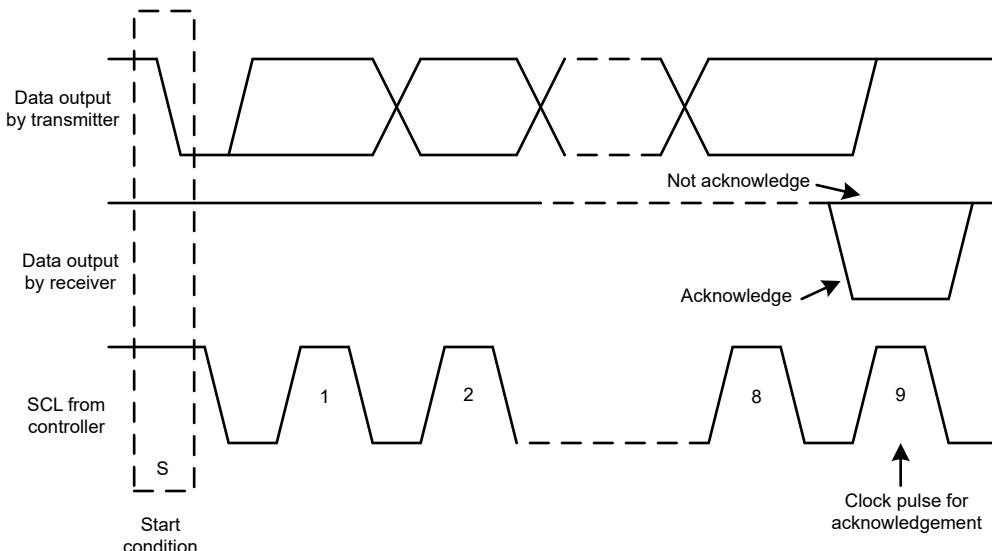
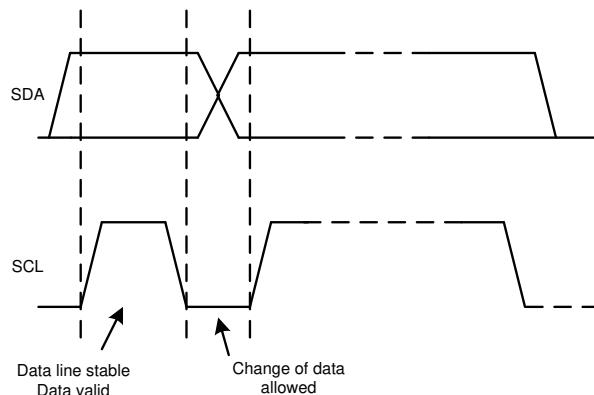

Figure 7-10. Acknowledge and Not Acknowledge on the I²C Bus
Figure 7-12. Bit Transfer on the I²C Bus
Other than specific timing signals, the I²C interface works with serial bytes. At the end of each byte, a ninth clock cycle generates and detects an acknowledge signal. An acknowledge is when the SDA line is pulled low during the high period of the ninth clock cycle. Figure 7-10 depicts a not-acknowledge, when the SDA line is left high during the high period of the ninth clock cycle.
2. The controller then generates the SCL pulses, and transmits the 7-bit address and the read/write direction bit (R/W) on the SDA line. During all transmissions, the controller makes sure that data are valid. Figure 7-12 shows that a valid data condition requires the SDA line to be stable during the entire high period of the clock pulse. All devices recognize the address sent by the controller and compare the address to the respective internal fixed address. Only the target device with a matching address generates an acknowledge by pulling the SDA line low during the entire high period of the 9th SCL cycle (see also Figure 7-10). When the controller detects this acknowledge, the communication link with a target has been established.